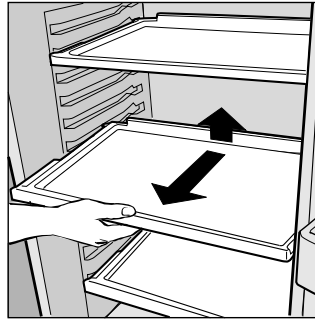

Fig. 1
- The refrigerator compartment is equipped with convenient, removable shelves (Fig. 1) which can be adjusted for height using the shelf guides. This allows you to place large items in the refrigerator.